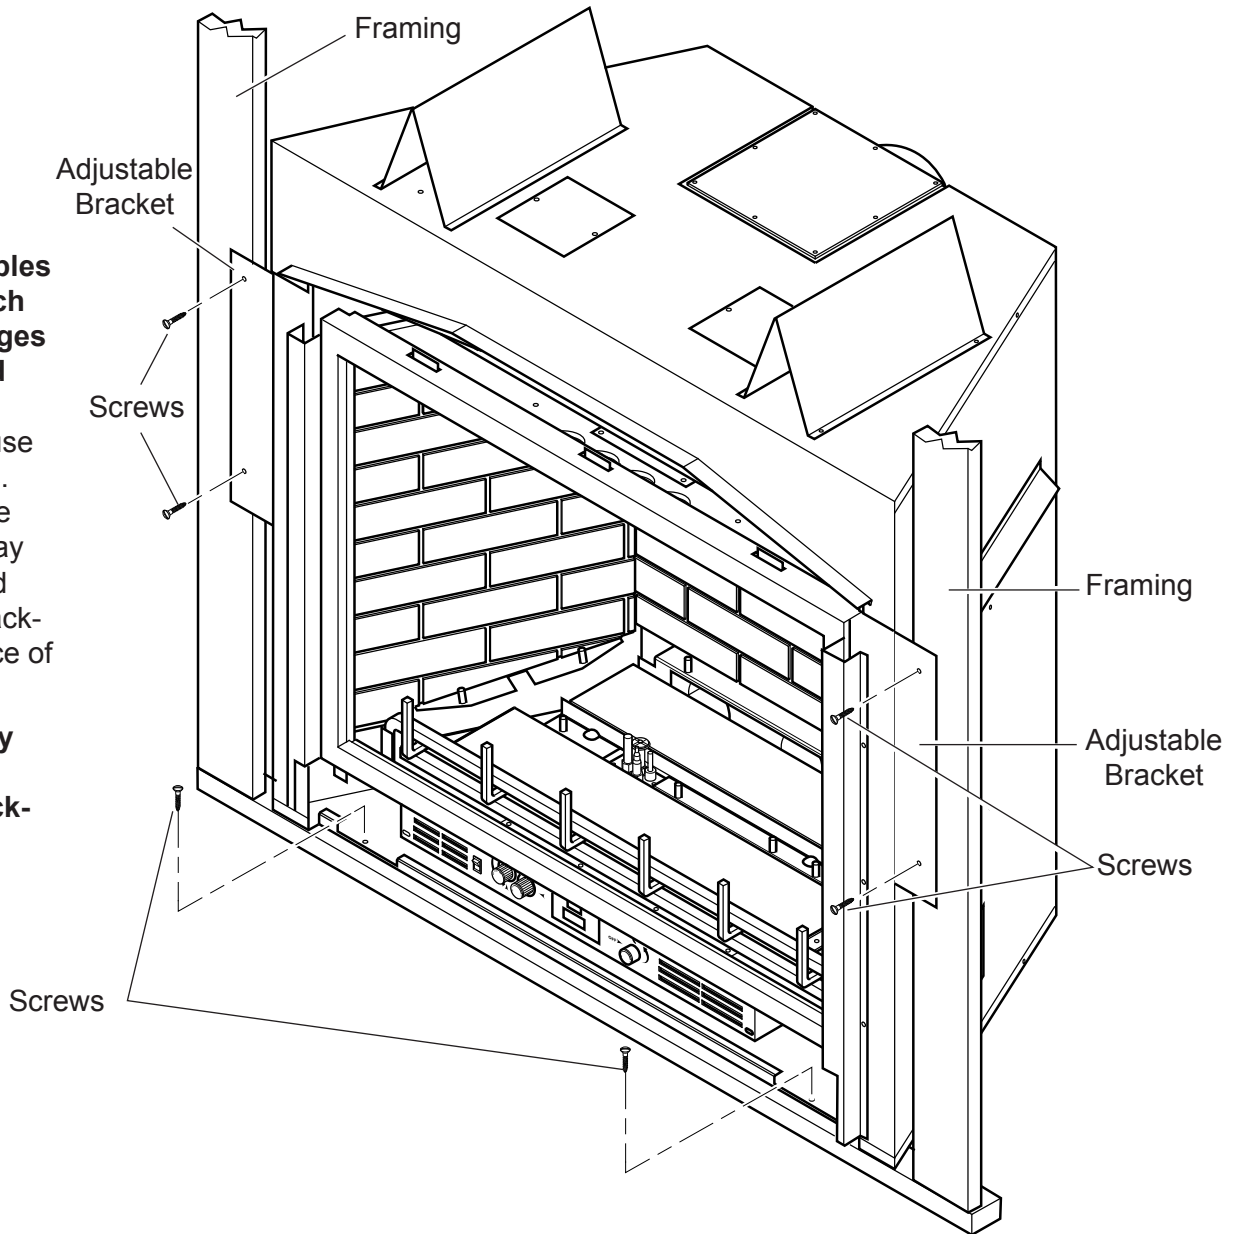

Figure 9 - Securing Fireplace to Floor and Framing Studs
The fireplace must be secured to the floor and/or to framing studs as shown in *Figure 9*. Use two (2) wood screws or masonry/concrete screws to secure fireplace to the floor. Use four (4) screws to attach fireplace to framing. The side brackets are adjustable from $\frac{1}{2}$ " to $\frac{5}{8}$ " to accommodate different thickness of noncombustible material.